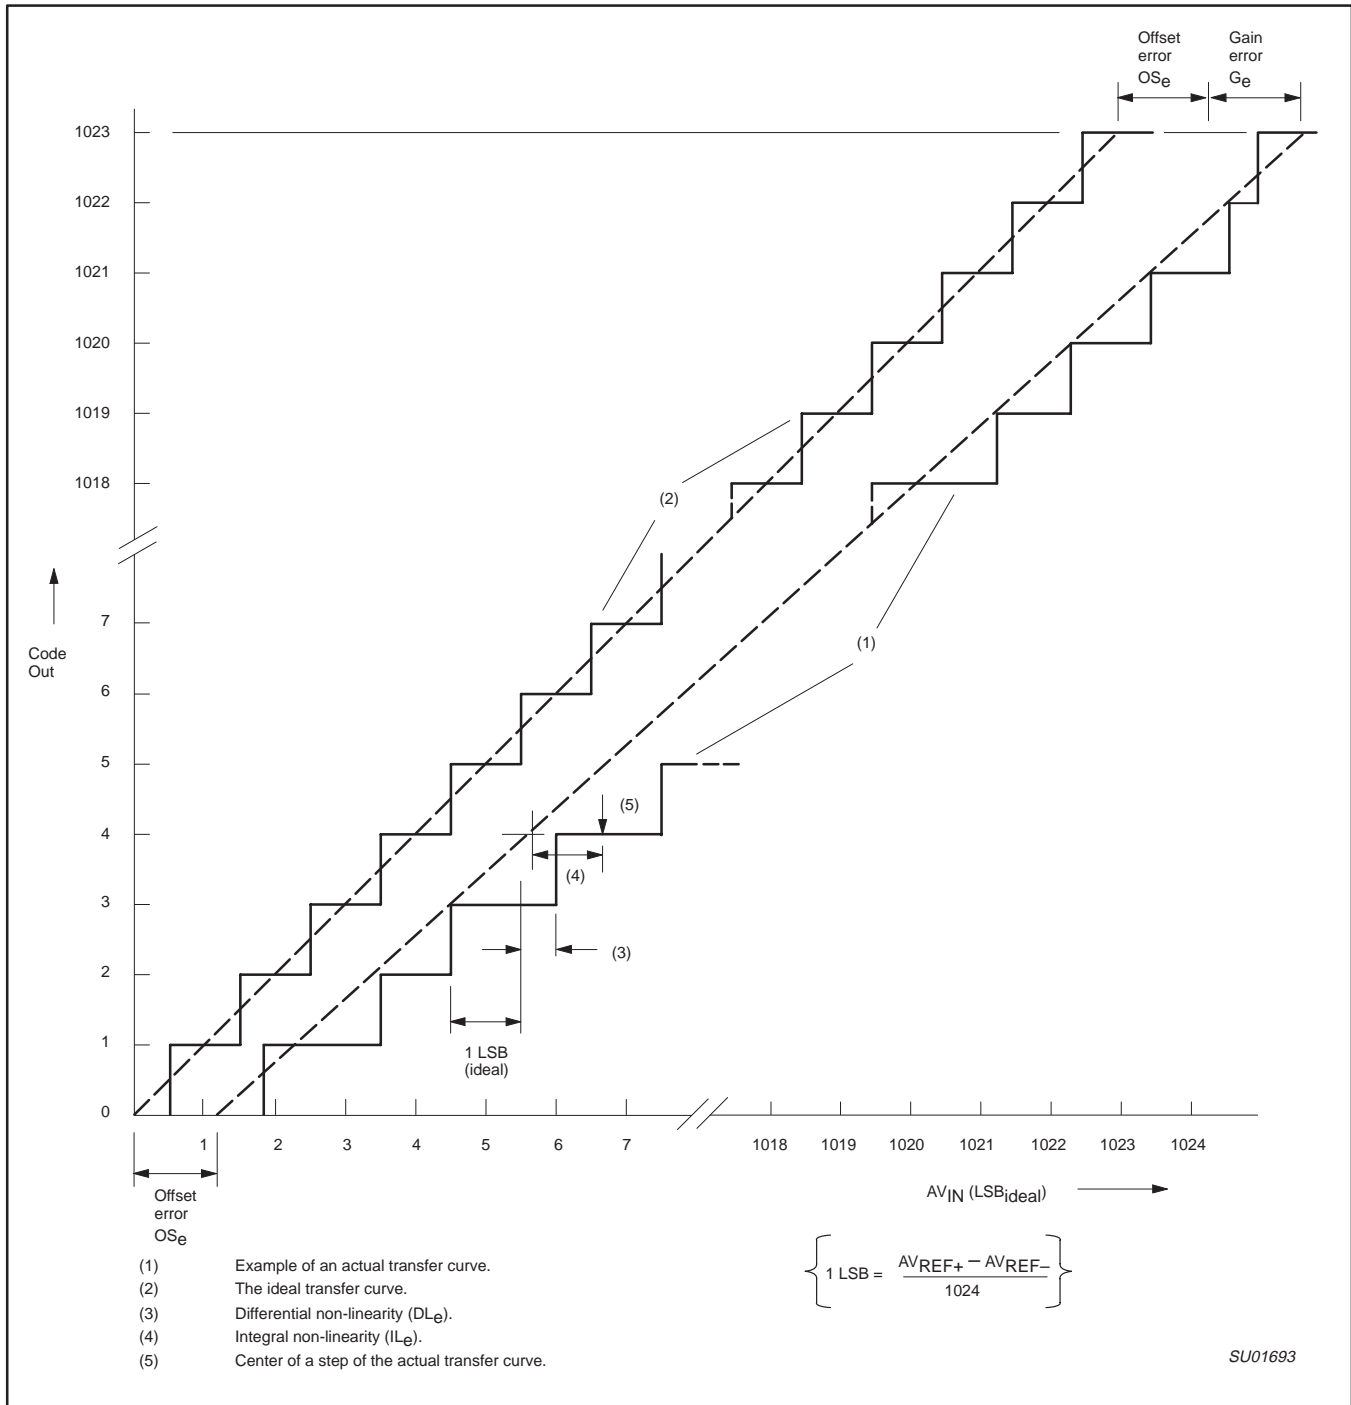

Figure 1. ADC Conversion Characteristic
- The differential non-linearity (DL_e) is the difference between the actual step width and the ideal step width. (See Figure 1.)
- The integral non-linearity (IL_e) is the peak difference between the center of the steps of the actual and the ideal transfer curve after appropriate adjustment of gain and offset error. (See Figure 1.)
- 14. The offset error (OS_e) is the absolute difference between the straight line which fits the actual transfer curve (after removing gain error), and a straight line which fits the ideal transfer curve. (See Figure 1.)
- 15. The gain error (G_e) is the relative difference in percent between the straight line fitting the actual transfer curve (after removing offset error), and the straight line which fits the ideal transfer curve. Gain error is constant at every point on the transfer curve. (See Figure 1.)